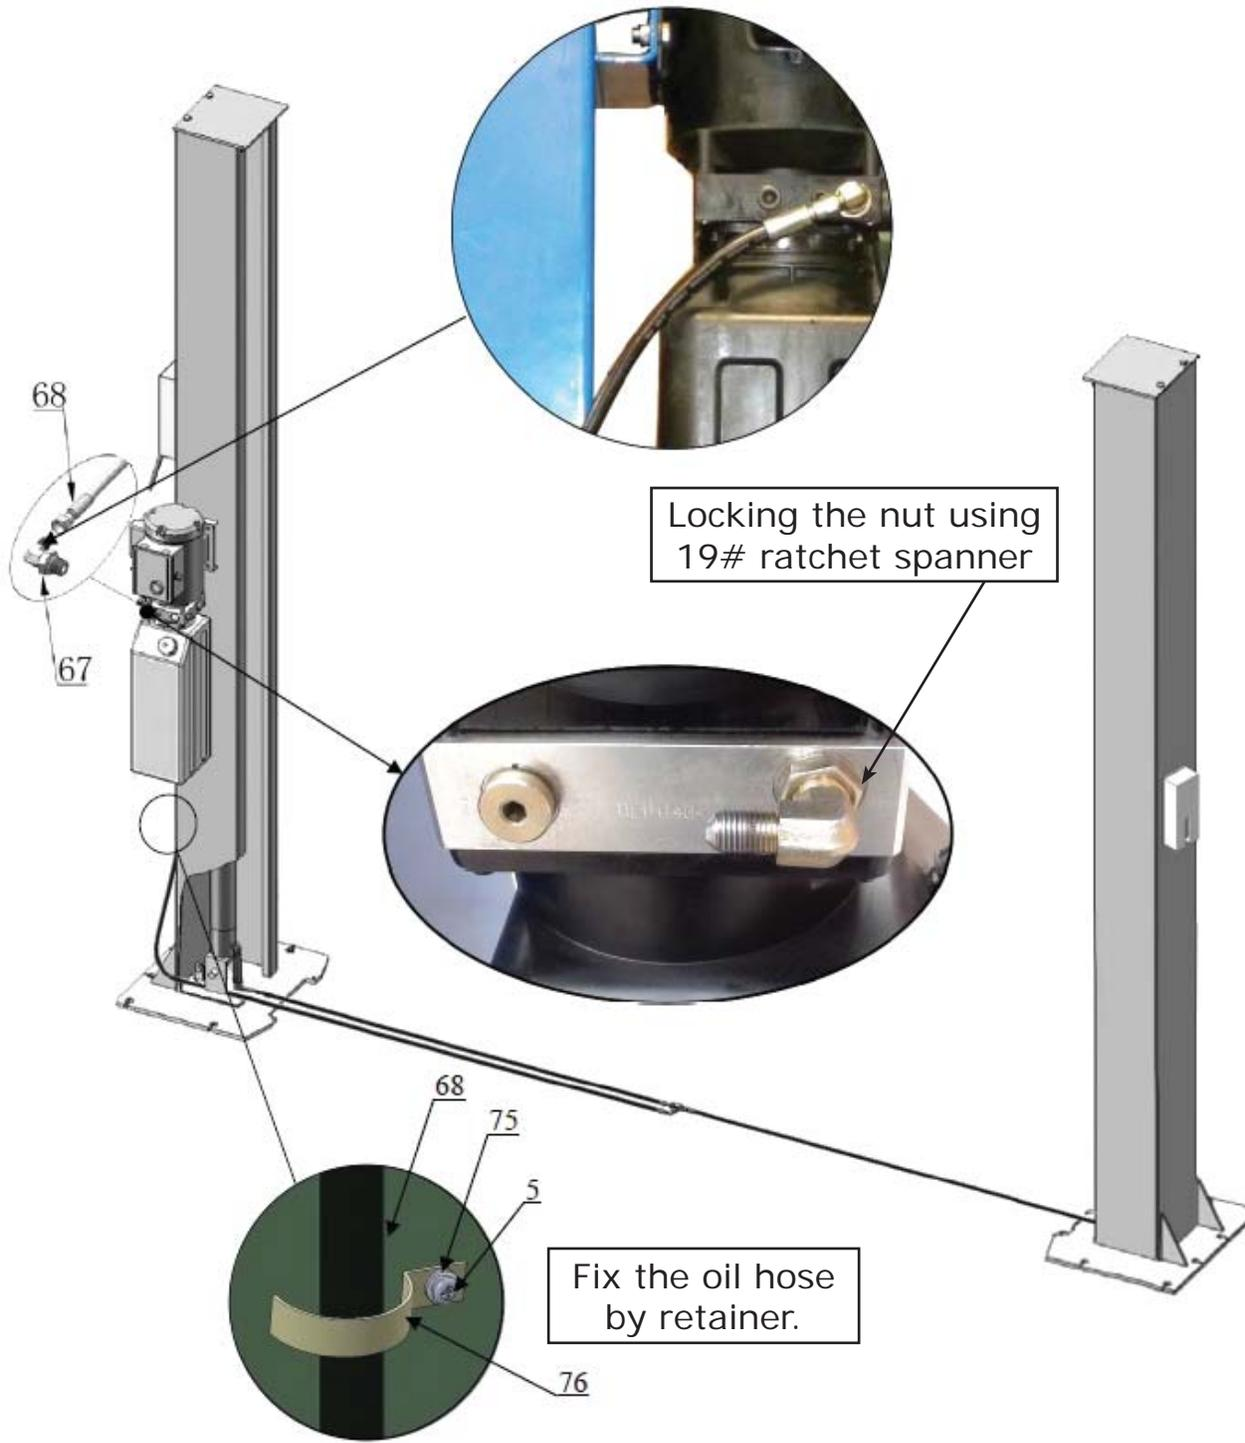

Fig. 27
K. Install hydraulic power unit and oil hose assembly. (See Fig. 27).